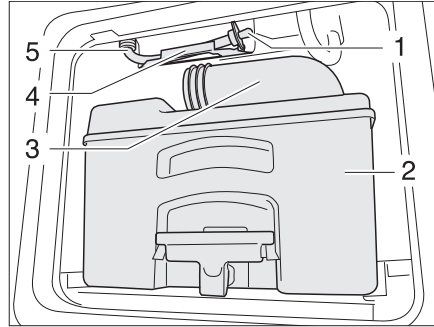

Fig. 392 Toilet water tank drain hose
- Empty the cassette (Fig. 392,2) at a disposal station authorized for this purpose and clean it.
- Leave the drainage neck (Fig. 392,3) open.
- Remove the drain hose (Fig. 392,5) from the holder (Fig. 392,4).
- Remove the drain plug (Fig. 392,1) and let the residual water run out.